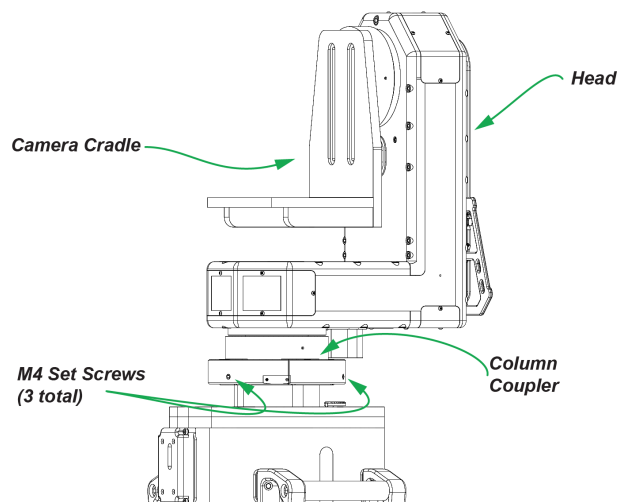

Figure 29 - Robotic Head
2. While another person holds the head steady, use the 4 mm hexagonal wrench to tighten the three M8 set screws along the edge of the head/column coupler, until the head is secure, as shown in **Figure 29**.
2. Use the grease pencil mark from **"Remove the Payload"** as a position marker for the payload and then add the payload, as shown in **Figure 29**.